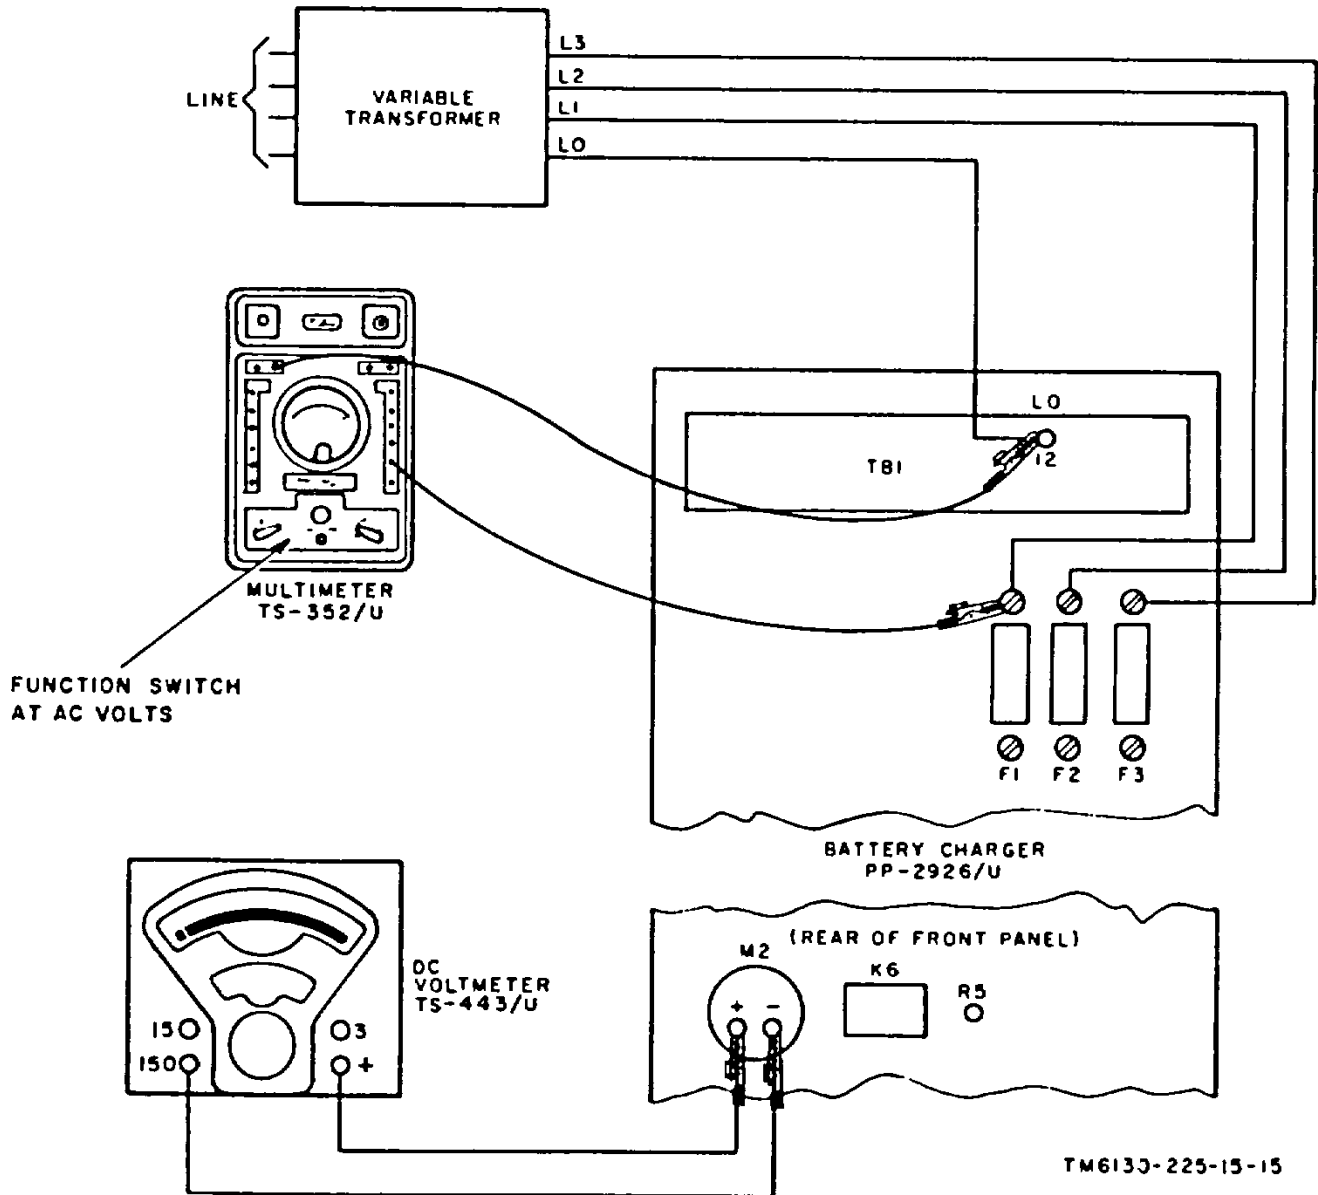

Figure 8. Test setup for testing sensitivity adjustments.
- b. *Test Connections and Conditions.* See figure 8 and information under Test procedure.